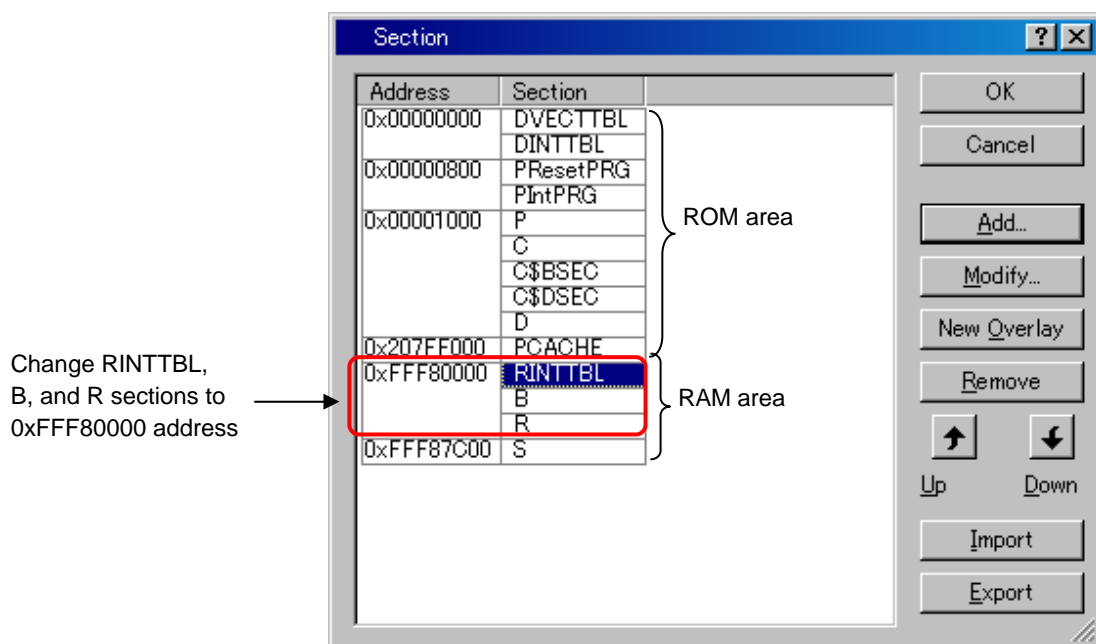

Figure 5.3.17 Section Change (1)
(1) Set the RINTTBL section to on-chip RAM area in [Section] dialog box as shown in Figure 5.3.17.